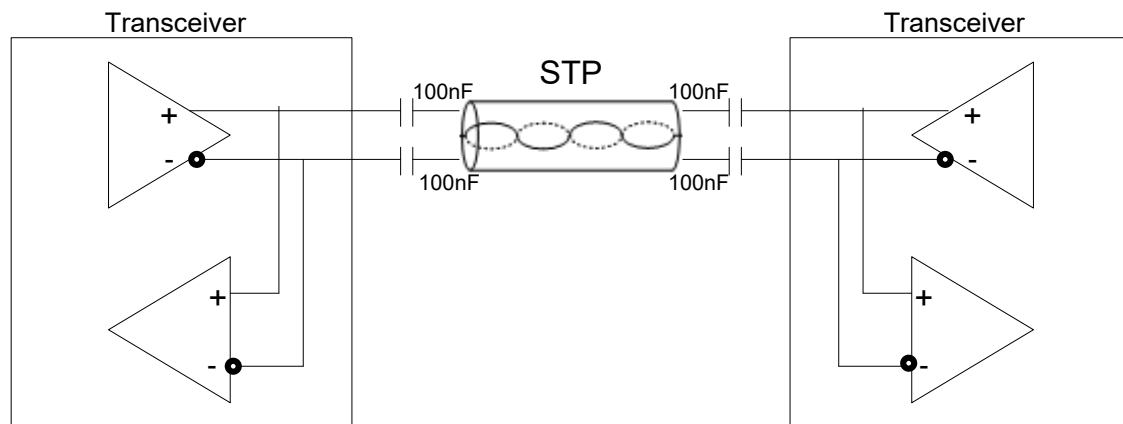

Figure 3. STP Termination Scheme
- See Figure 3 for STP termination scheme.